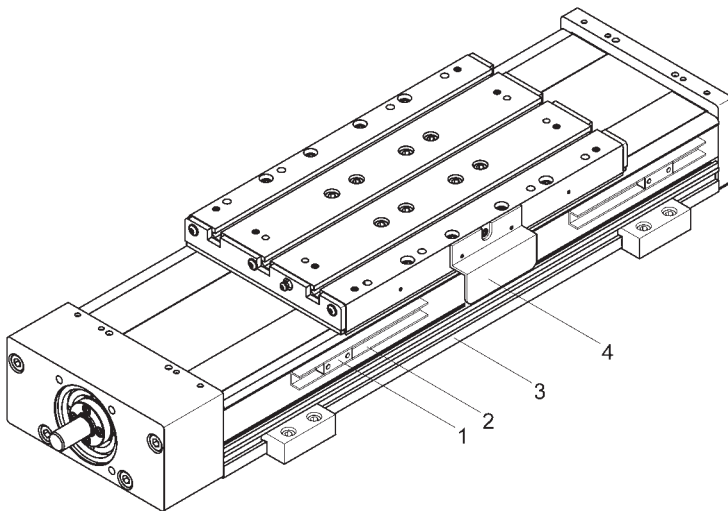

Fig. 5
1. **Fig. 5:** Release the proximity switch by loosening the attachment screw.